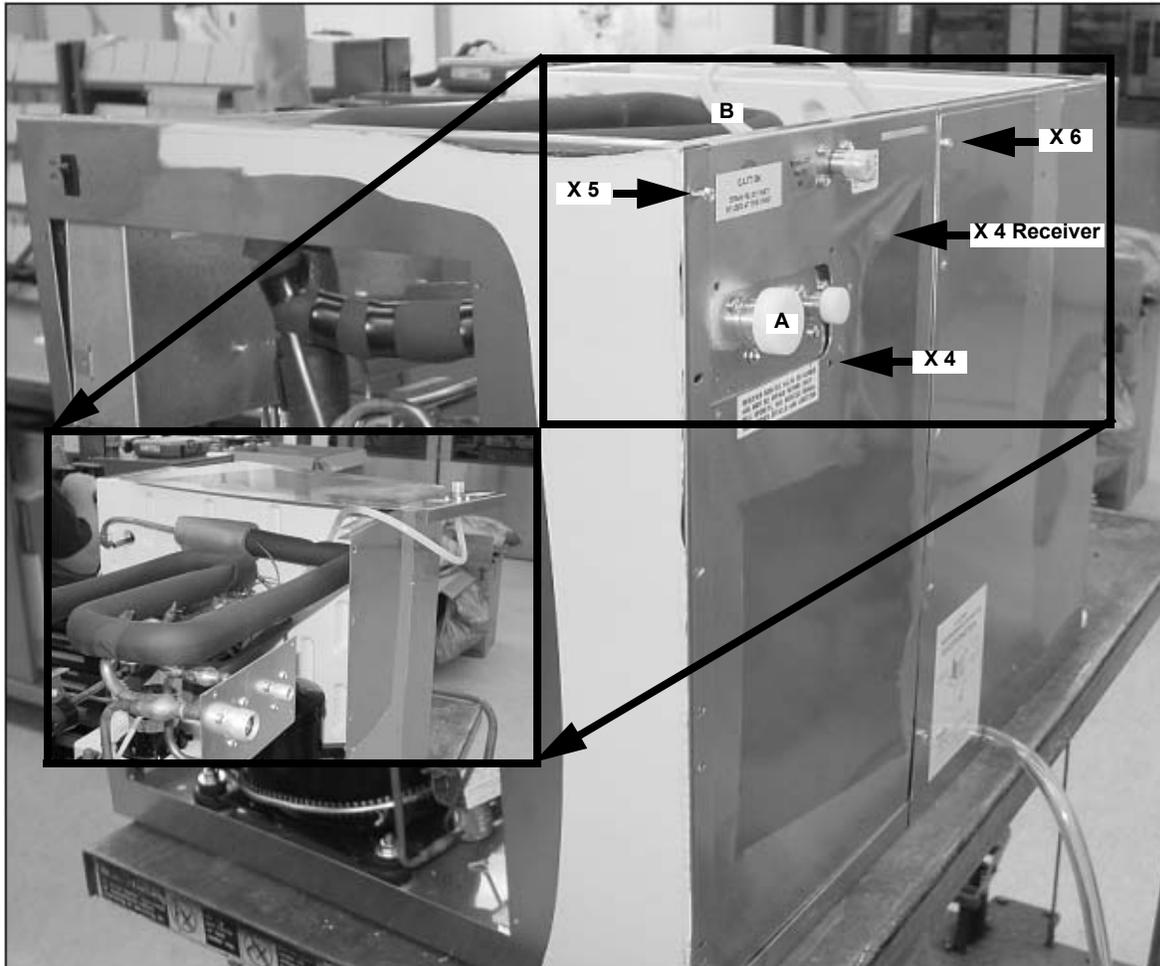

Figure 22.
Remove the 4 screws on the back panel at the receiver bracket (Figure 22).
17. Clip the wire tie securing the internal water line (B) to the suction line assembly. Remove the 6 screws attaching the back panel to the left wrap panel (Figure 22).